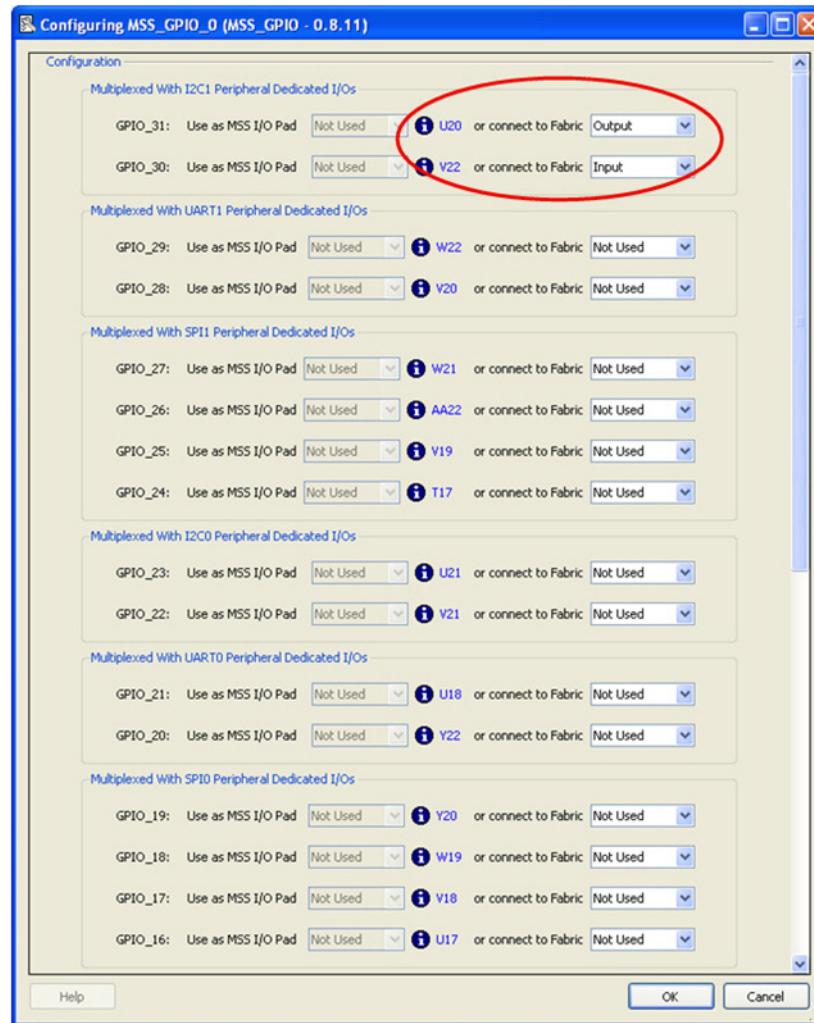

Figure 1-1 · GPIO Configuration Example 1
- GPIO[31:16] cannot be connected to an MSS I/O. Note the grayed-out menus and the Info icons (Figure 1-1).